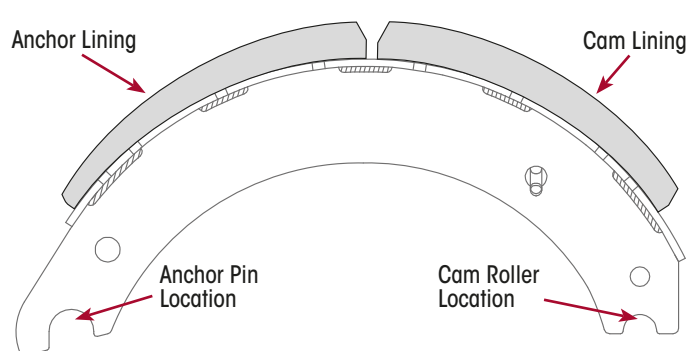

Figure 58: Brake Lining Position
2. Place both linings onto the shoe to check form and fitment. Ensure cam and anchor linings are placed in the correct position. Refer Figure 58.